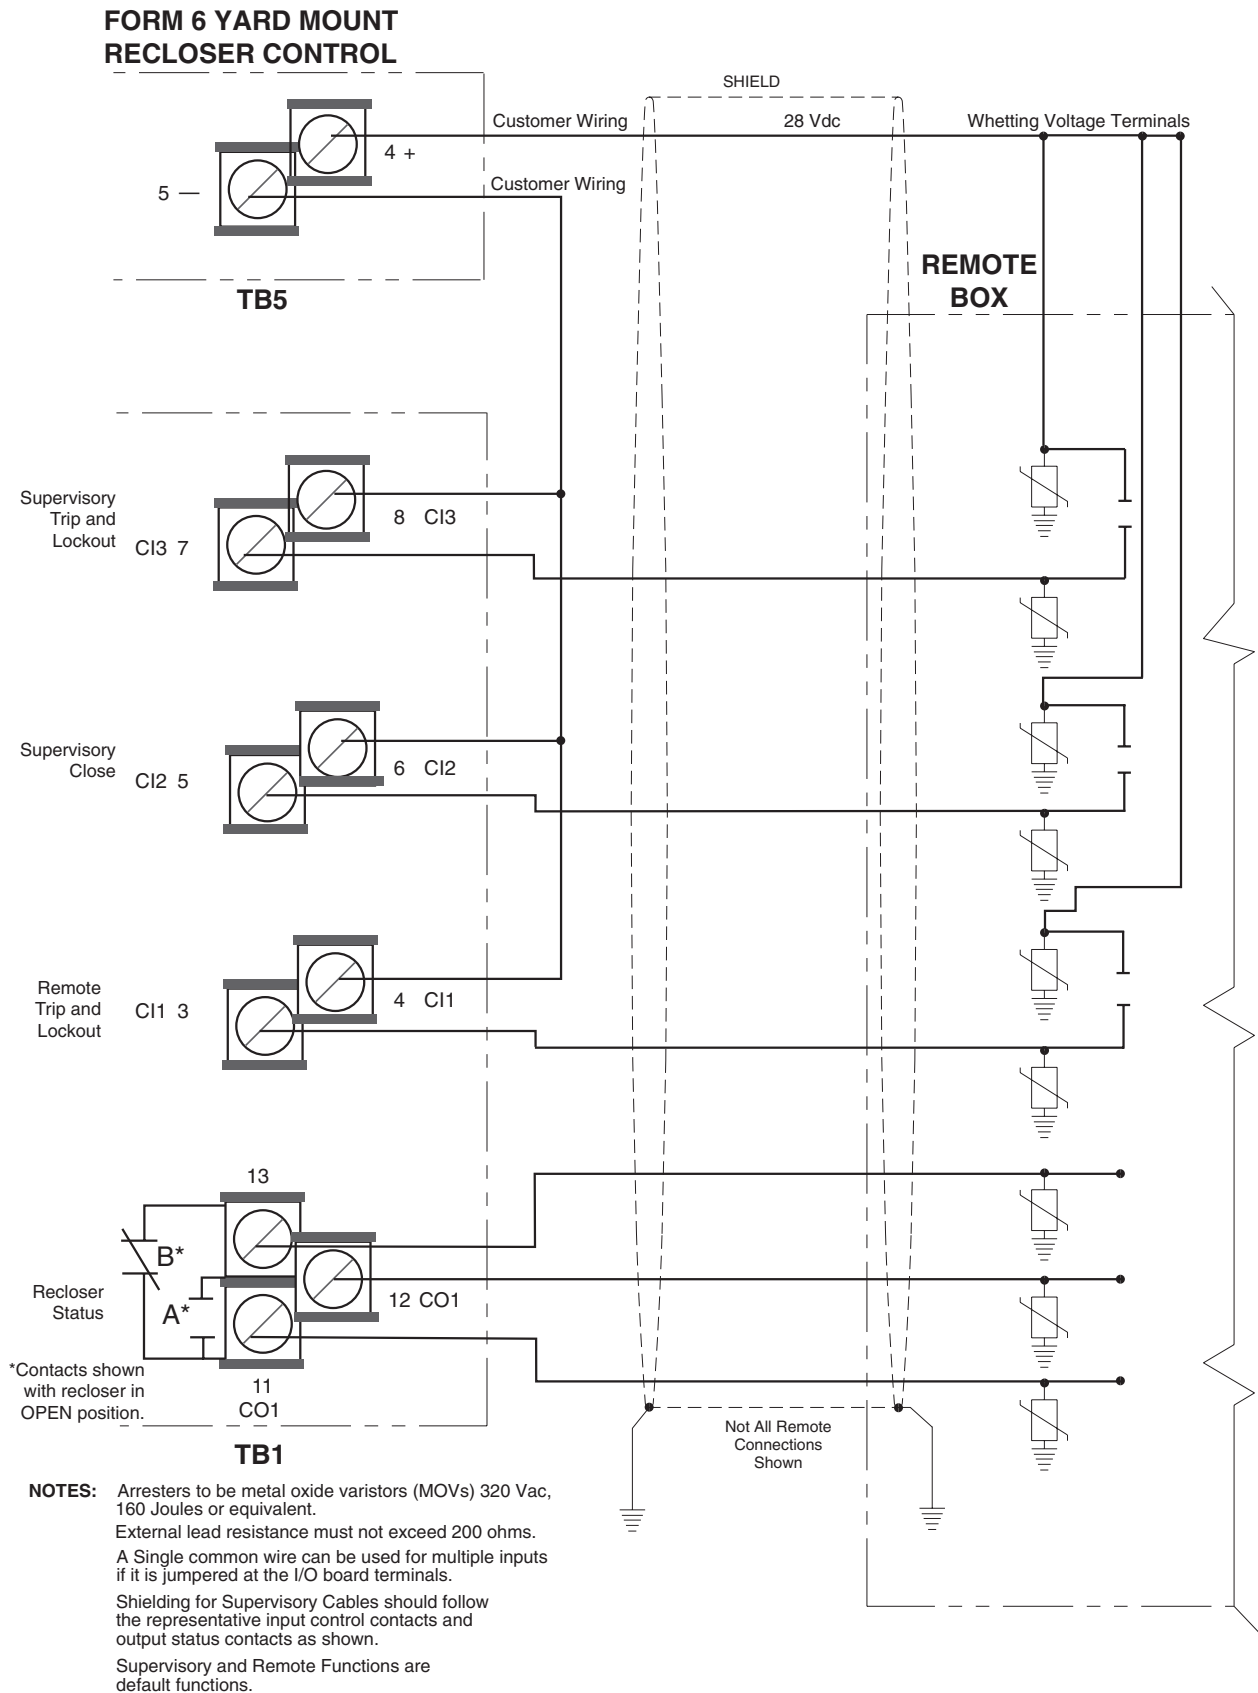
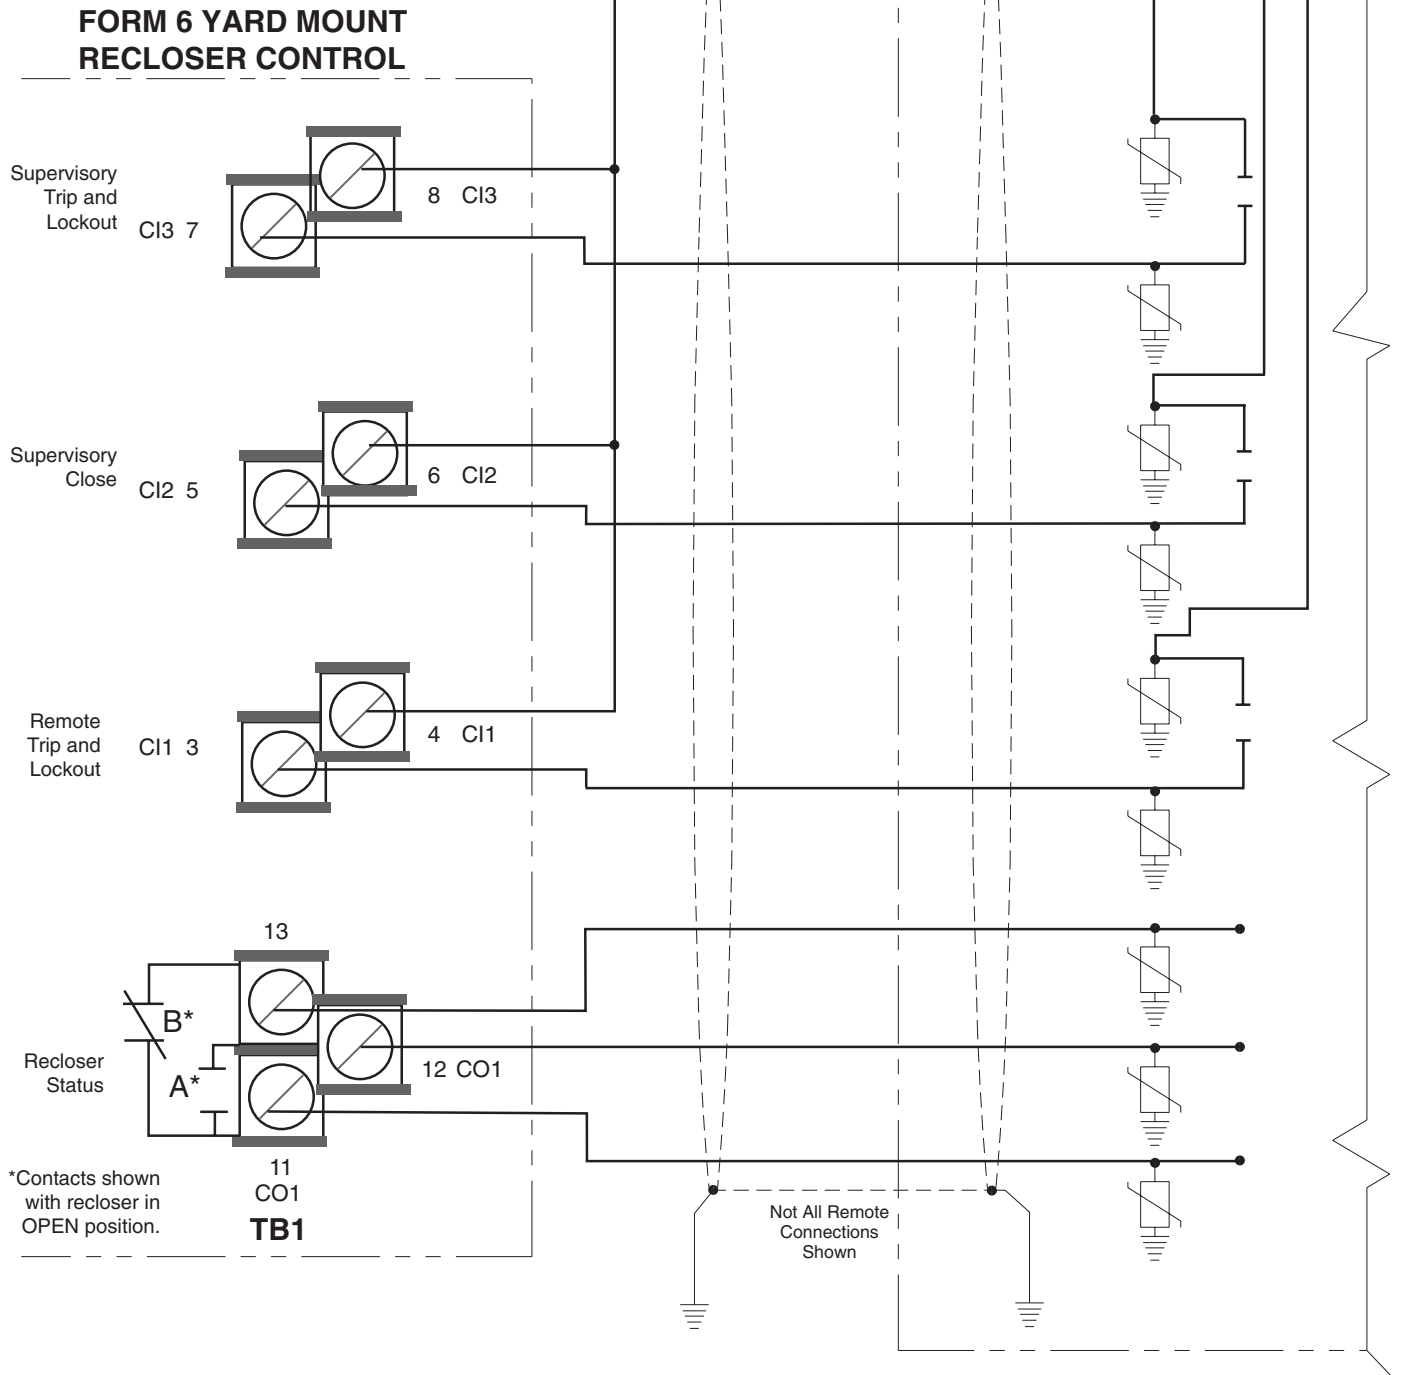

Figure 22. Shielding and Surge Protection for Supervisory and Remote Cables (12-48 Vdc option).
Figure 23. Shielding and Surge Protection for Supervisory and Remote Cables (48-125 Vdc, 120 Vac option).
All supervisory operation and control monitor leads must be protected within shielded cables. Refer to Figures 22 (12-48 Vdc whetting voltage option) or Figure 23 (48-125 Vdc, 120 Vac whetting voltage option).
**Whetting voltage is available from the Form 6 Recloser Control on Terminal Block TB5. Refer to Figure 22.